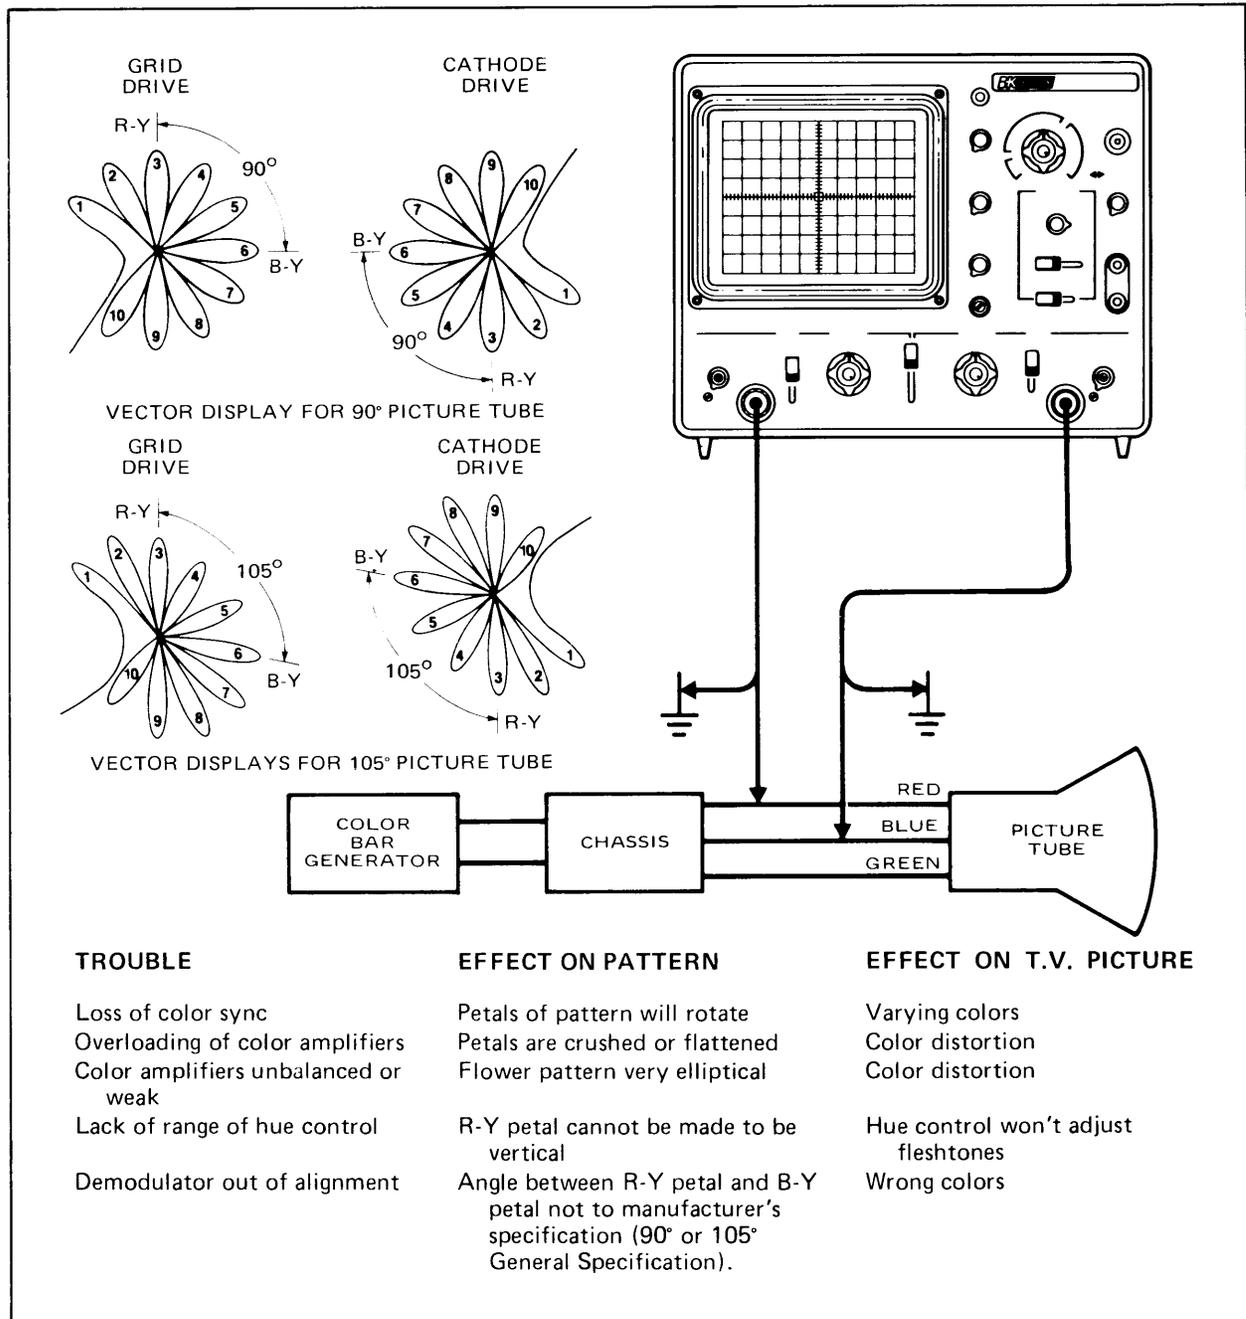

Fig. 31. Vectorscope operation and patterns.
7. For vector presentation, merely move the horizontal probe to the driven element of the blue gun. The color vector pattern is the same type as given by the television set manufacturer. Fig 31 shows typical displays obtained for sets using 105° systems and 90° systems with either grid drive or cathode drive.